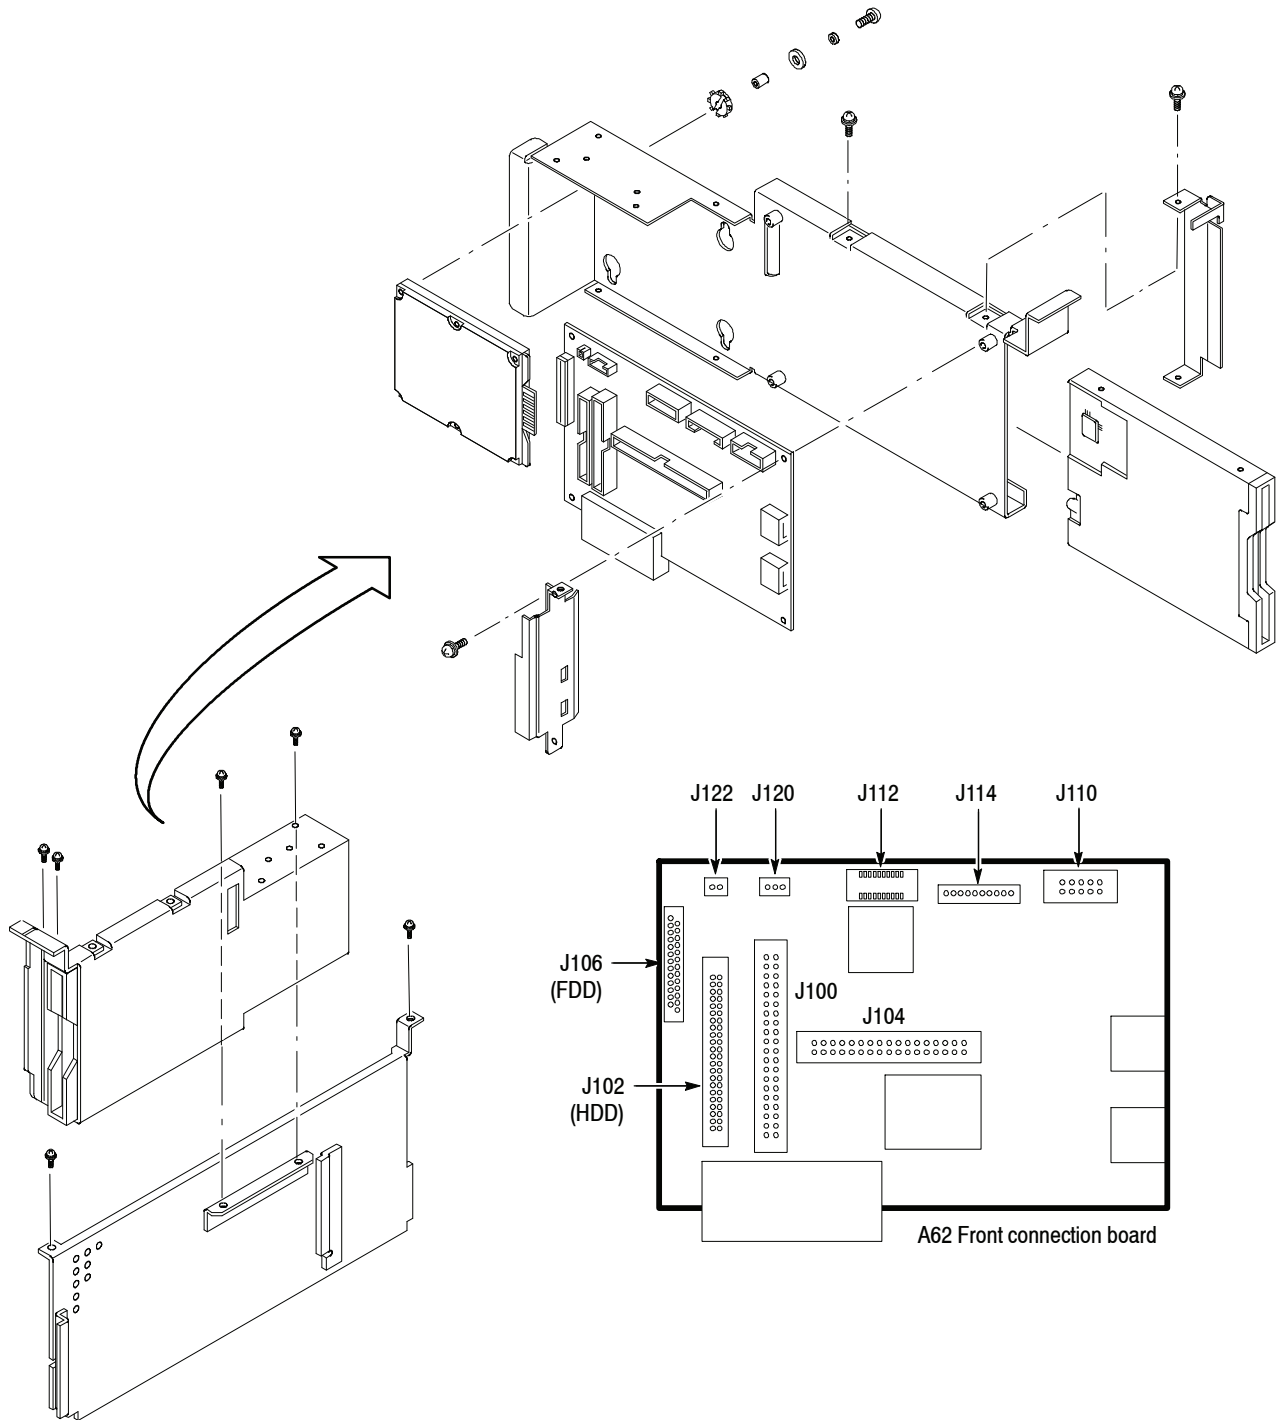

Figure 5-17: Disk module removal
**3. Orient the analyzer:** Set the analyzer so its bottom is down on the work surface and its left side is facing you.**4. Remove the disk bracket:** See Figure 5-17.
3. *Remove the floppy disk drive:* See Figure 5-17.
3. *Remove the A62 Front connection board:* See Figure 5-17.